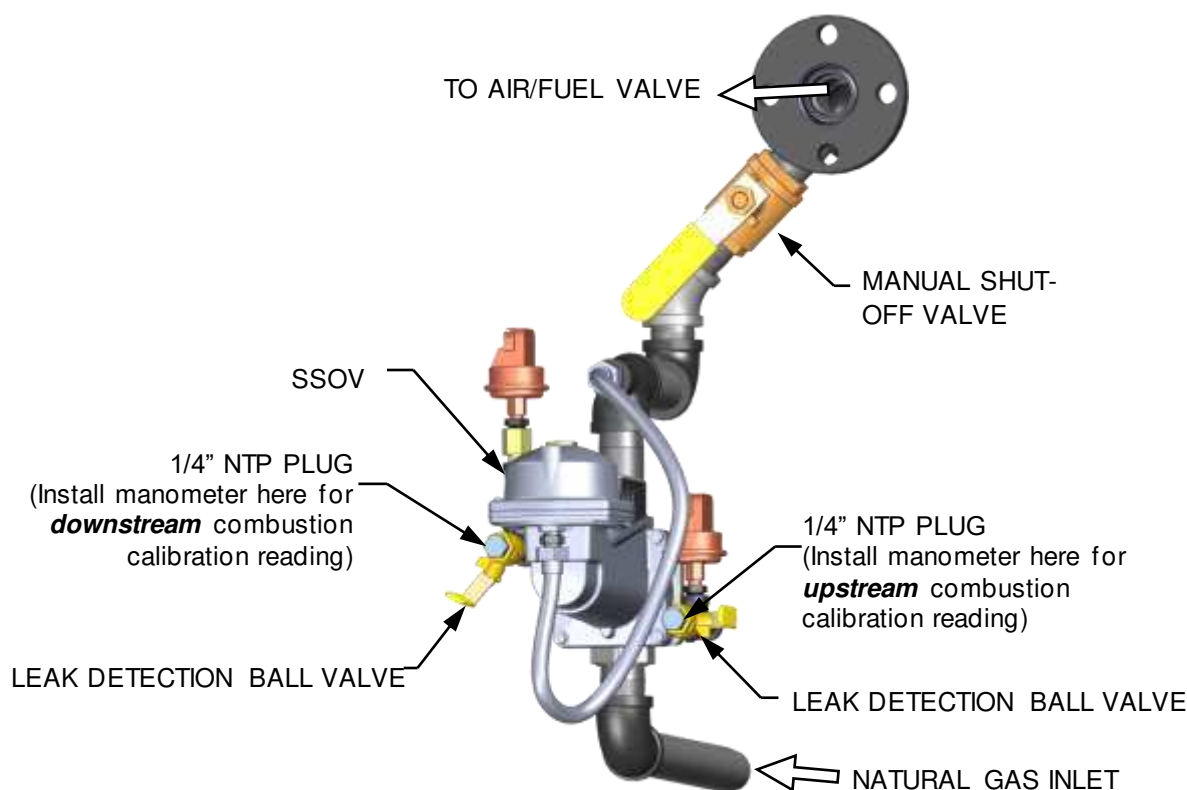

Figure 4-1a: 1/4 Inch Gas Plug Location – BMK750 & 1000 (P/N 22322 shown)
Figures 4-1a through 4-1e show where the gas supply manometer is installed on both the upstream and downstream locations.
3. Remove the 1/4" NPT plug from the leak detection ball valve on the upstream or downstream side of the SSOV, as needed during testing, as shown in Figure 4-1a – 4-1e.